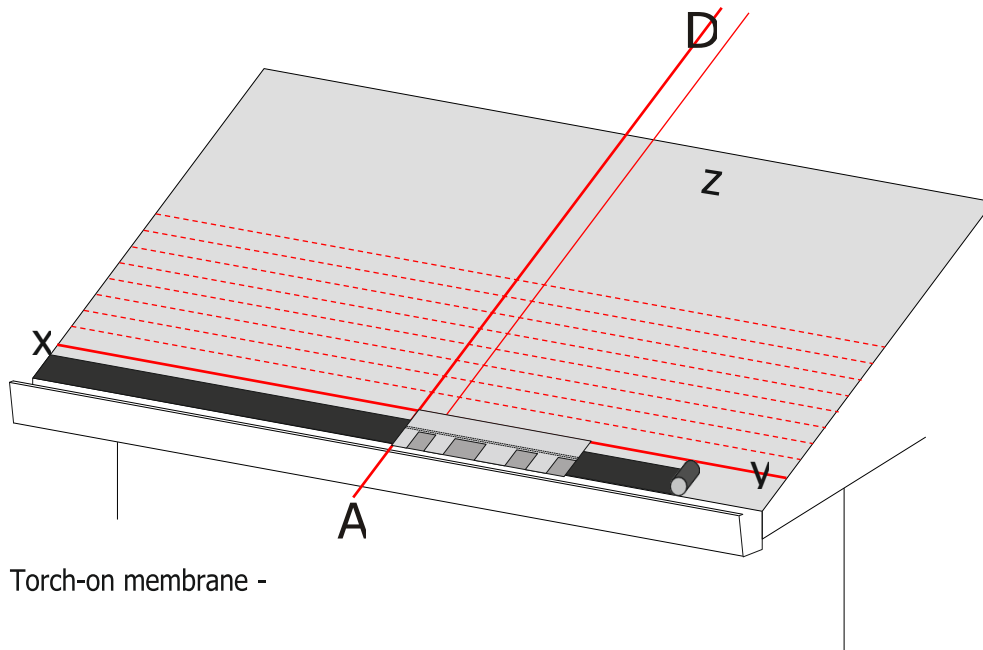

Fig. 2 -
- Apply along the eaves 25 cm of torch-on membrane (Fig. 2);
- Install the first course of Master shingles from the line AD (Fig. 2).